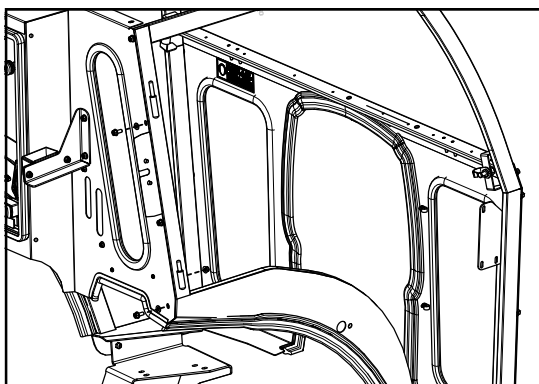

Fig. 7.3 (Right Sideframe Installation)
7.3 Fasten remaining bolts, washers, and nut to rear panel. See Fig. 7.3. Tighten hardware.